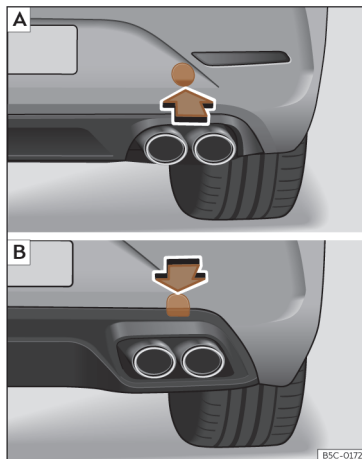

Fig. 49 On the right side of the rear bumper: remove the cover. **A** Leon Sportstourer; **B** Leon.
The housing of the screw towing eye is on the right side of the rear bumper behind a lid » **Fig. 49**.
- *Leon Sportstourer*: Press the lower side of the lid »» Fig. 49 [A] to unclip it. *Leon*: Press the upper side of the lid »» Fig. 49 [B] to unclip it.